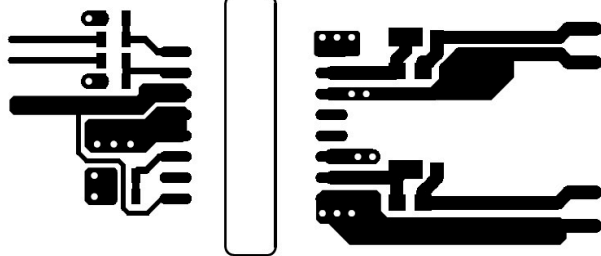
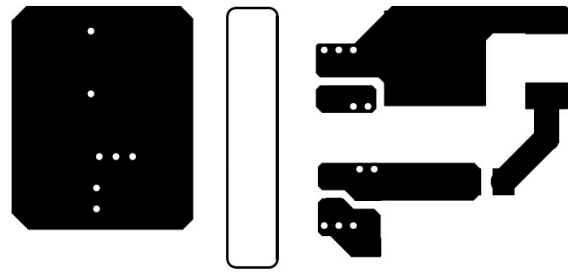

Figure 10-2. Top Layer Traces and Copper
Figure 10-3. Bottom Layer Traces and Copper
- Increasing the PCB copper connecting to VDDA, VDDB, VSSA and VSSB pins is recommended, with priority on maximizing the connection to VSSA and VSSB (see Figure 10-2 and Figure 10-3). However, high voltage PCB considerations mentioned above must be maintained.
Figure 10-2 and Figure 10-3 shows top and bottom layer traces and copper.